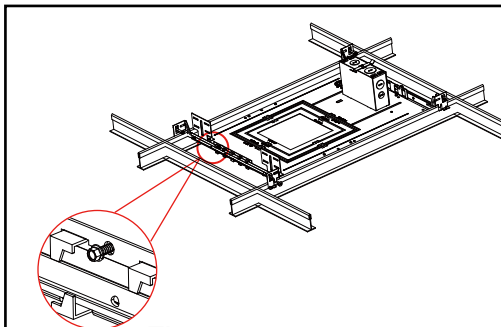

Figure 19
2. Adjust and center the downlight opening hole as desired, by sliding the frame along the bar hangers. Lock and secure the frame with the bar hangers by tightening the edging screws. (Fig.19)